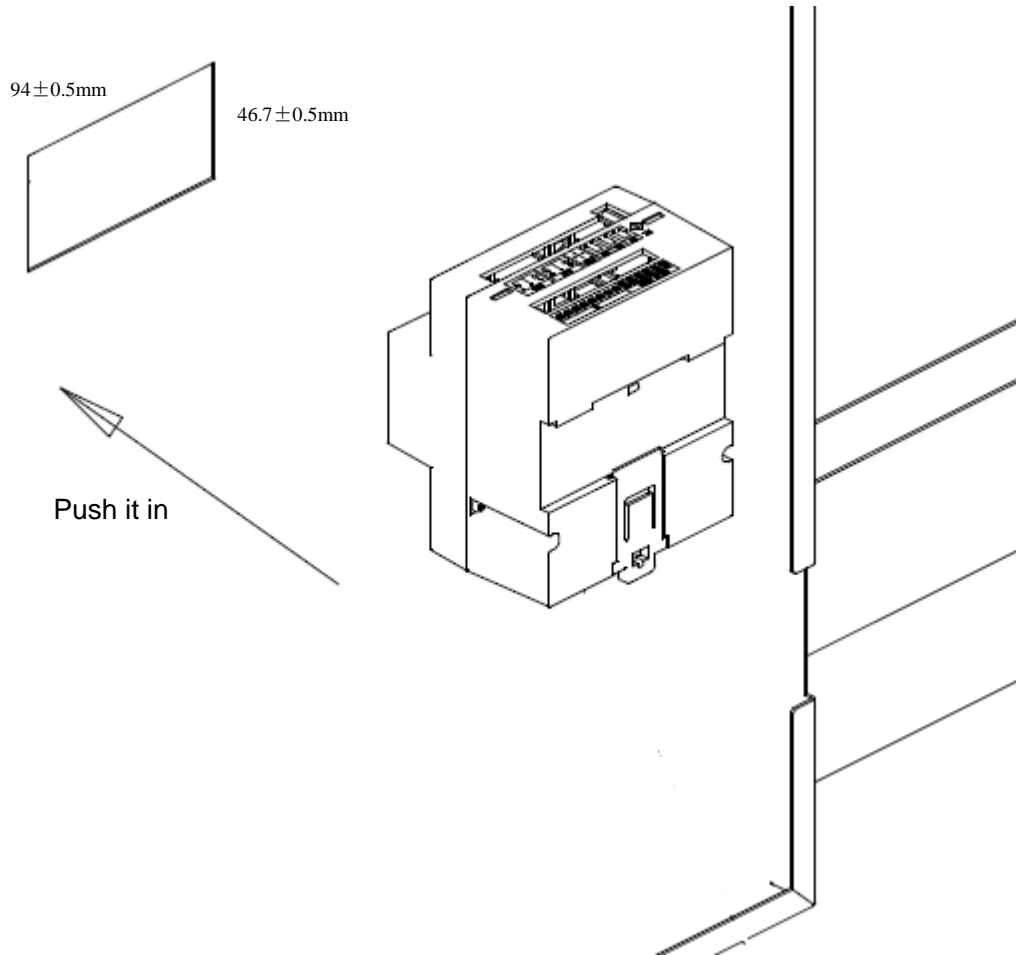

Figure 2-1 Schematic Diagram of Pushing the Controller into the Front Panel
1. Push the Controller into the opening of the cabinet front panel, as shown in Fig. 2-1.